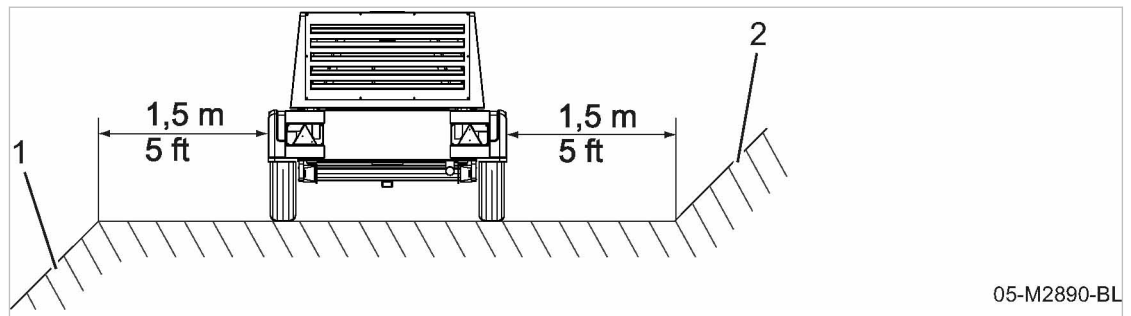

Fig. 9 Minimum distance from excavations and slopes
- ① Excavation
- ② Slope
1. Keep sufficient distance (at least 1.5 metres) from the edges of excavations and slopes, see Fig. 9.